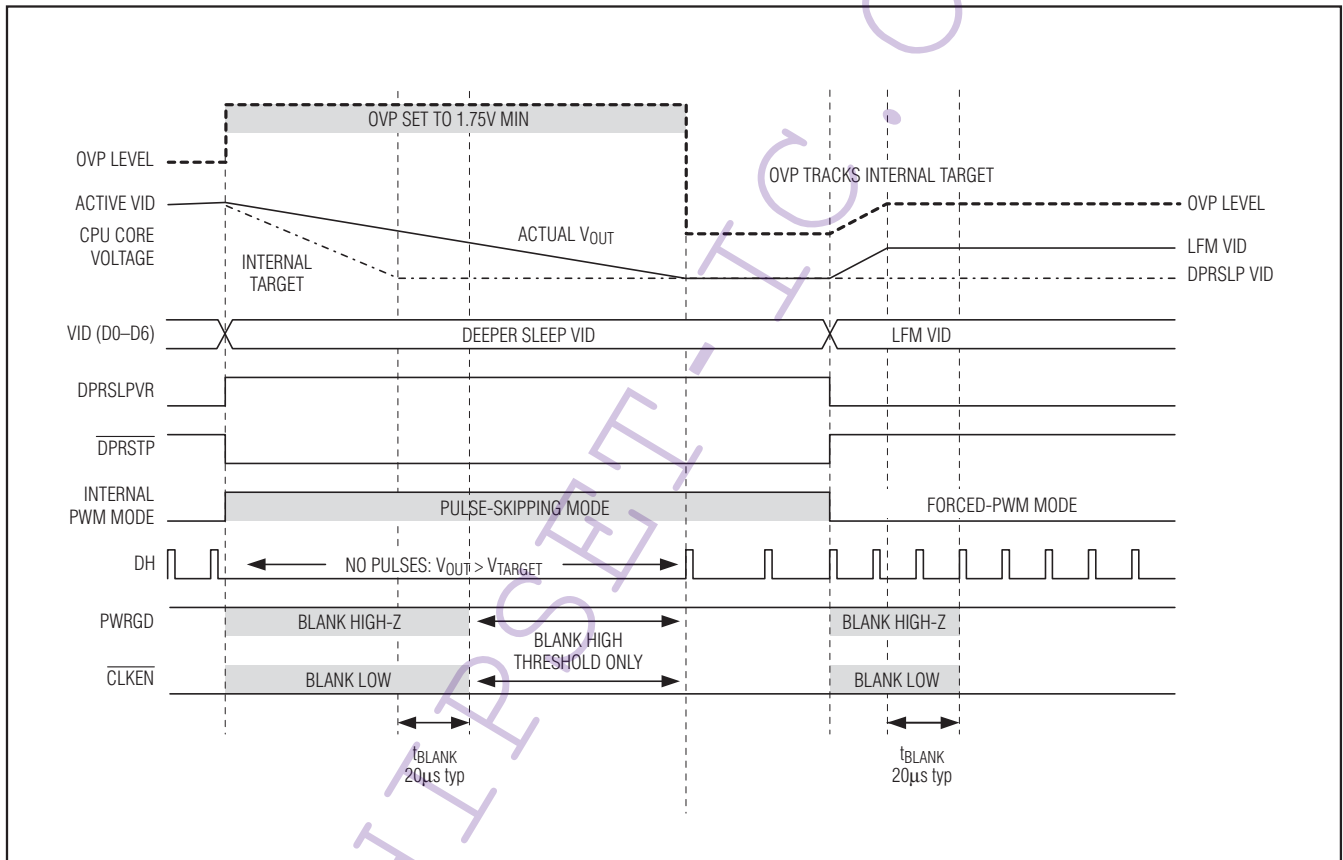

Figure 6. Standard IMVP-6 C4 Transition
- Standard C4 deeper sleep exit:** When exiting deeper sleep (DPRSLPVR pulled low) while the output voltage is regulating to the deeper sleep voltage, the MAX8796/MAX17401 immediately ramp the output voltage to the LFM DAC code provided by the processor at the slew rate set by R_{TIME}. The controller blanks PWRGD and $\overline{\text{CLKEN}}$ (forced high impedance) until 20µs after the transition is completed. See Figure 6.